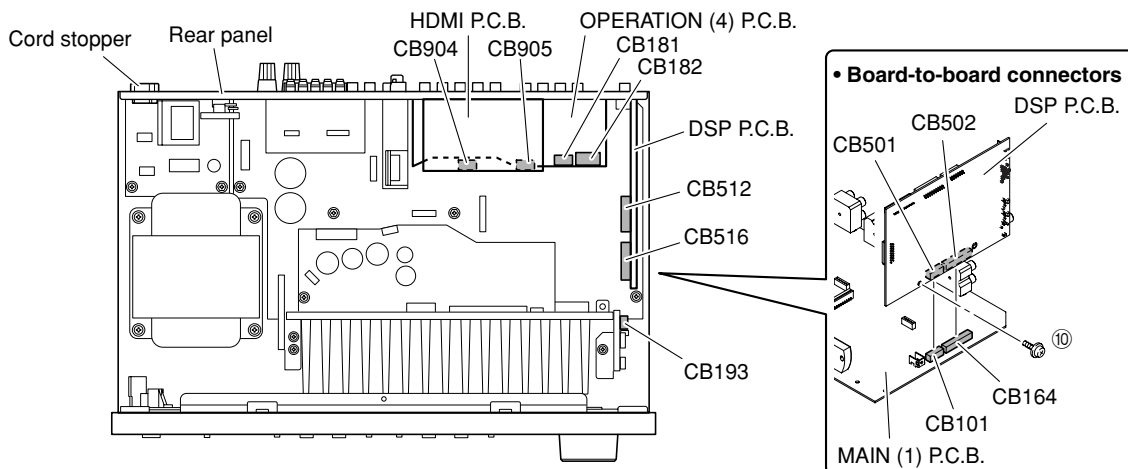

Fig. 2
- a. Remove CB904 and CB905. (Fig. 2)
- c. Remove HDMI P.C.B.. (Fig. 2)
**4. Removal of OPERATION (4) P.C.B.**
- a. Remove CB193 and CB182. (Fig. 2)
- c. Remove OPERATION (4) P.C.B.. (Fig. 2)
- b. Remove cord stopper. (Fig. 2)
- c. Remove rear panel. (Fig. 2)
- d. Remove screw (⑩). (Fig. 2)
- e. Remove CB512 and CB516. (Fig. 2)
- f. Remove the DSP P.C.B. which is connected directly to the MAIN (1) P.C.B. with board-to-board connectors. (Fig. 2)